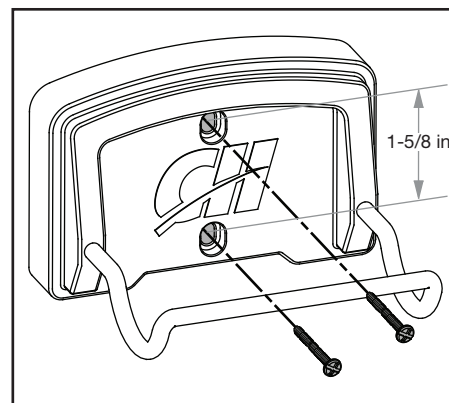

Figure 3 - Mount to wall with screws
4. Once stud is located, mark both holes on the wall, using the wall hanger (1-5/8 inch center on center). See Figure 3.